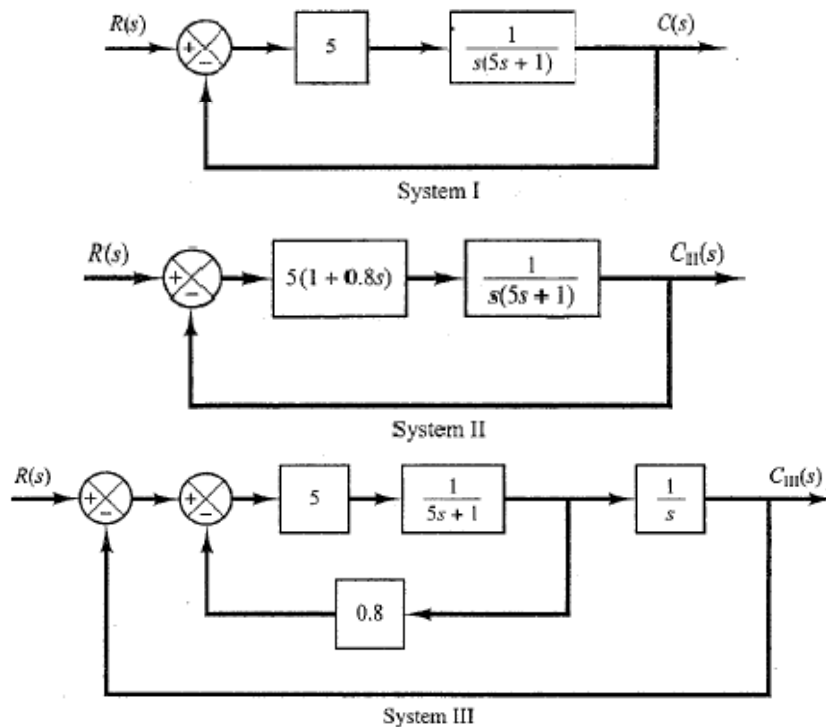

Fig. 6
10) Figure 6 shows three systems. System I is a positional servo system. System II is a positional servo system with PD control action. System III is a positional servo system with velocity feedback. Compare the unit-step response of the three systems and obtain the best one with respect to the speed of response and maximum overshoot.